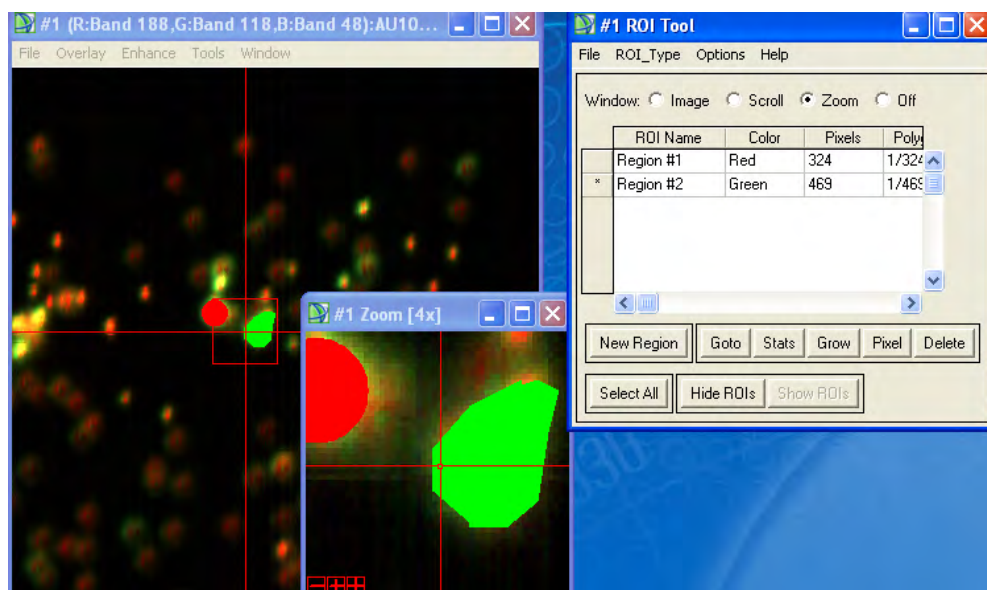

Figure 24. The ROI Tool and examples
3. Select the zoom window display (see Figure 24)